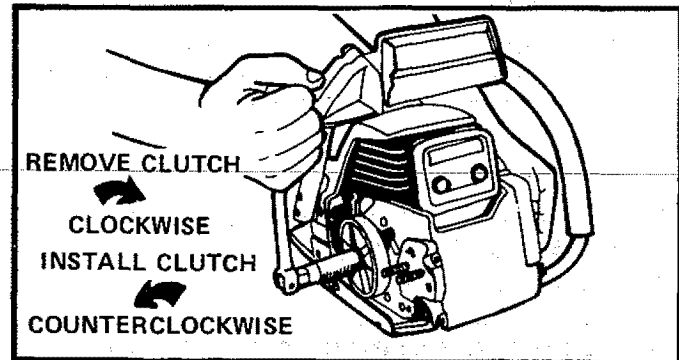

Figure 55
5. Remove the clutch with a 3/4" socket or end wrench in a *clockwise* direction. Figure 55.
7. Install clutch in a *counterclockwise* direction. Figure 55.